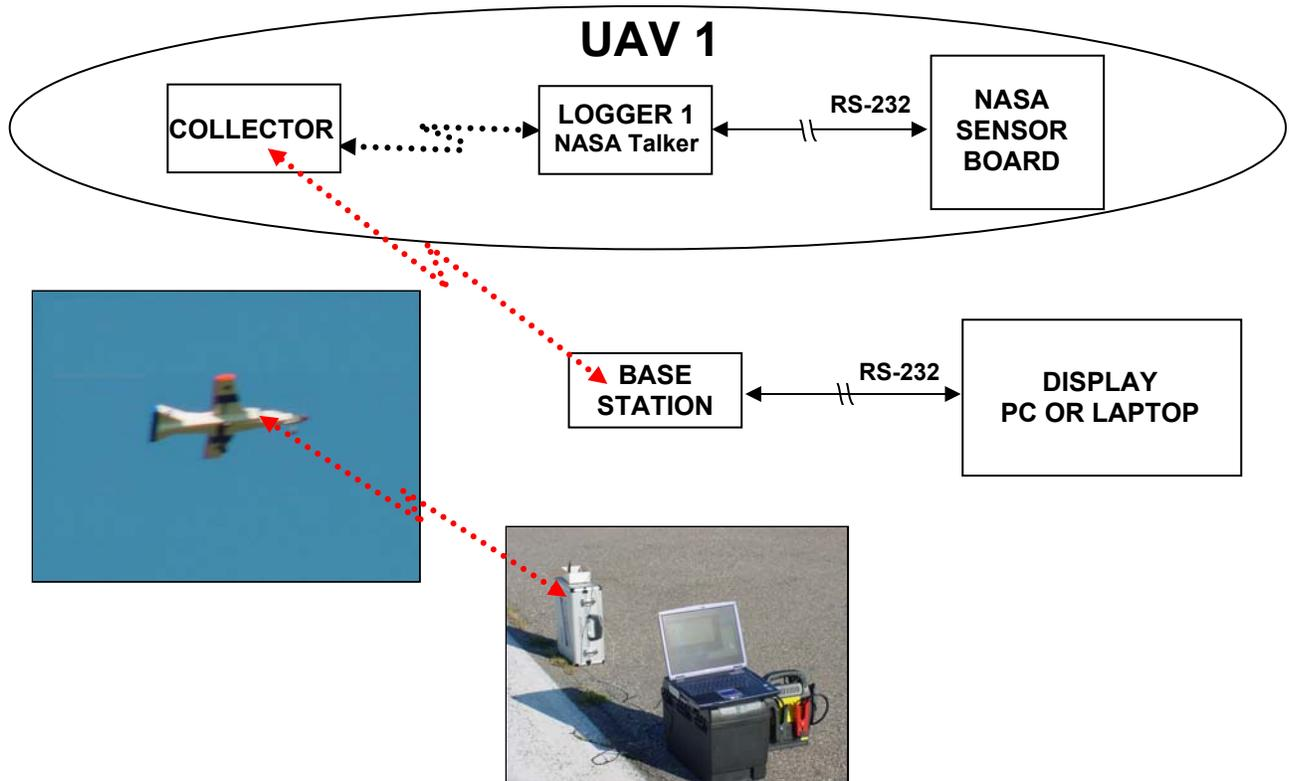

Figure 1 - Wireless Means of Data Collection From On-Board Sensors.
2.0 Test Configuration and Overview (Refer to Figure 1)
To demonstrate wireless data collection from on-board sensors the UAV was outfitted with the NASA-UAV Sensor Board and 2 MachineTalkers®; as shown in Figure 1. One Talker®, the "Logger", was connected by RS-232 cable to the NASA Sensor Board and programmed to absorb the NASA output stream containing data from 8 different sensors.